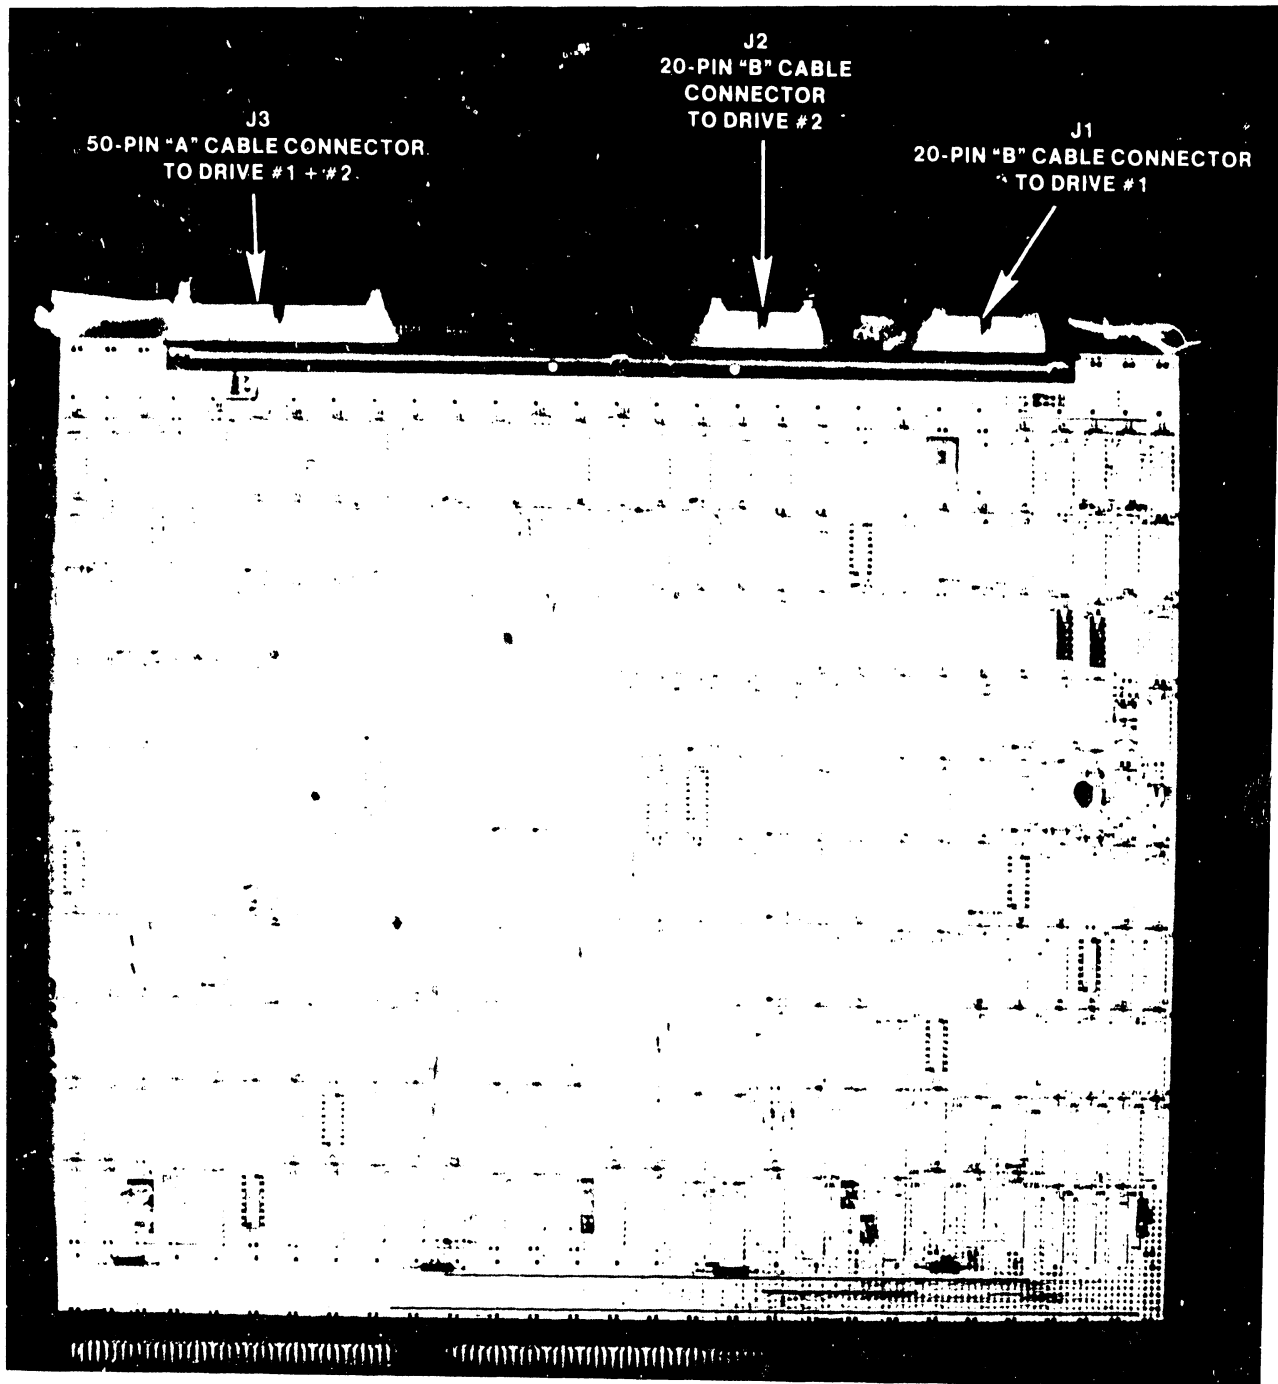

Figure C-11. 210-8325 Quantum Disk Device Adapter
1. Remove all connectors from the top of the Quantum Device Adapter (figure C-11) in Motherboard slot #5 (I/ODA2).